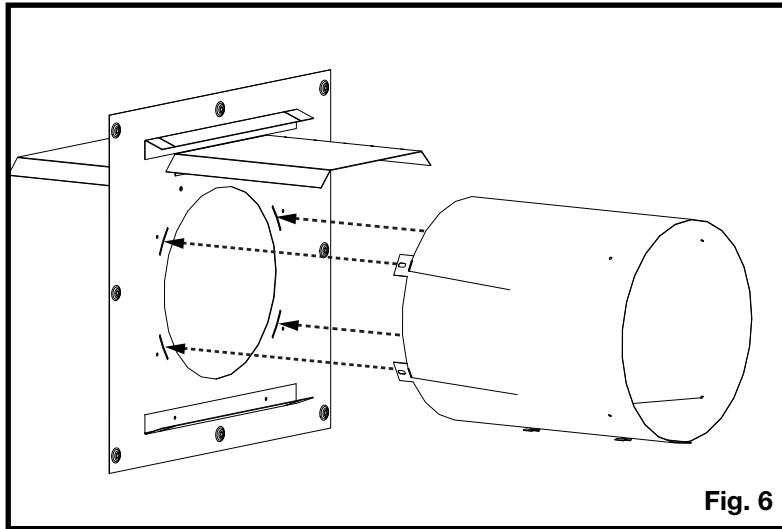

Fig. 6
6. Insert the vent sleeve tabs into the firestop spacer slots then bend the tabs over to secure to the firestop spacer along with 4 supplied fasteners (**Fig. 6**).